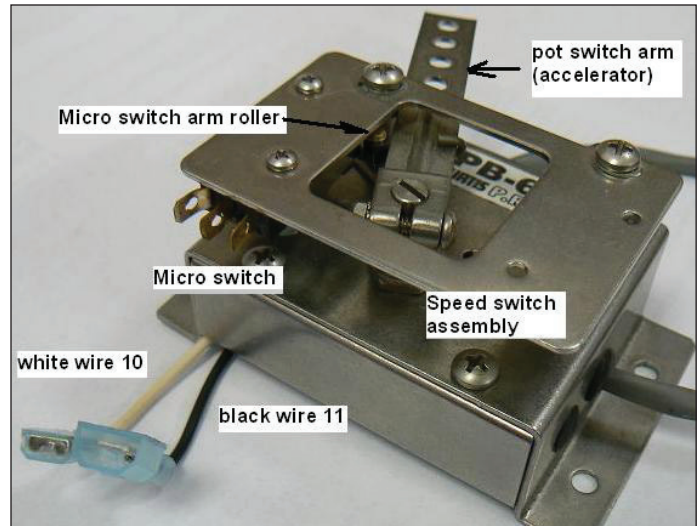

Figure 5-2. Speed Switch Assembly with Micro Switch
1. Set the digital volt/ohm meter (VOM) to test continuity and touch the probe to the first and third terminals on the micro switch (Figure 5-2).
1. Note the locations of wires and connections (Figure 5-2). Disconnect white wire (10) and black wire (11) coming from pot and going to wiring harness.
Refer to Figure 5-2.
8. Adjust speed switch position, if necessary, to avoid interference. Tighten lock nuts (7).
9. Reconnect two black wires to micro switch. Do not use center terminal (Figure 5-2).
- Reconnect black wire (11) and white wire (10) as per the wiring schematic for the vehicle. The white wire has a female push-on connector and the black wire has a male spade connector.